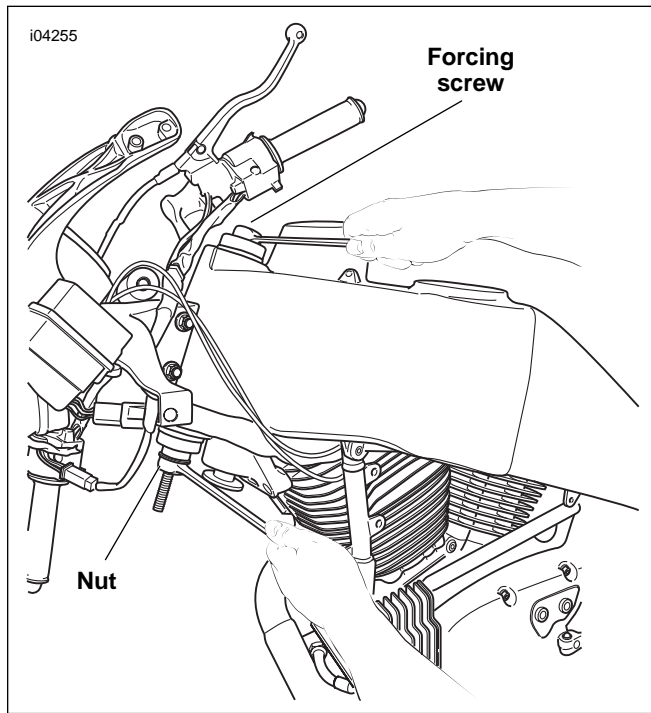

Figure 2-81. Install Bearings
6. See Figure 2-81. Hold the forcing screw while tightening the nut to draw the bearing into the steering head. Continue tightening until the bearing is fully seated.